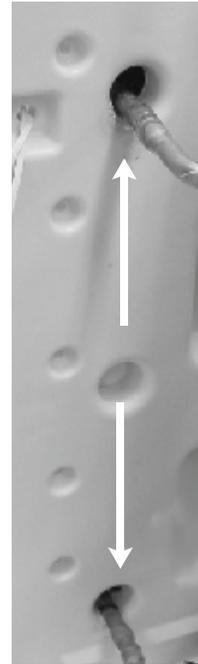

Figure 22.
21. Protecting the water pump and plastic bulkhead from heat, remove the evaporator piping at the bulkhead, leaving the short extension tubes attached (FIGURE 22).